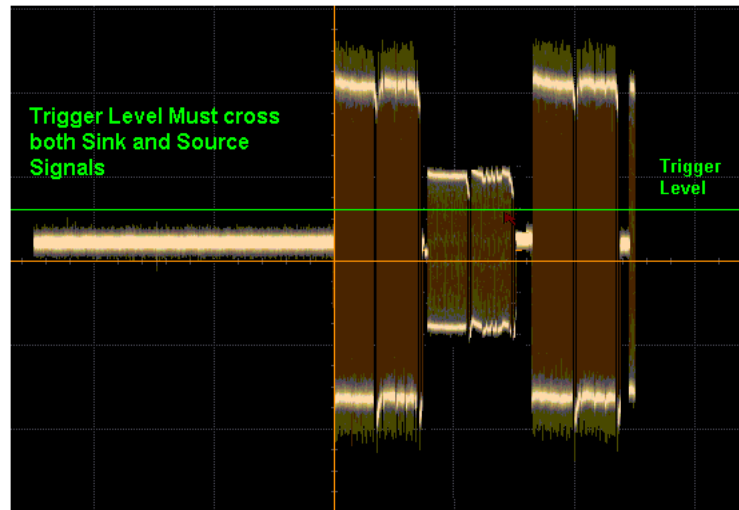
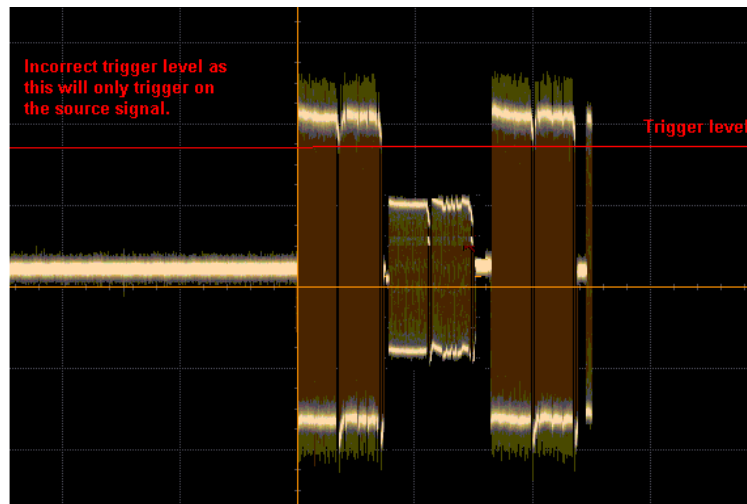

Figure 265 Correct Trigger Level
Figure 266 Incorrect Trigger Level
- **Trigger Level** – The AUX Channel signal level on which to trigger. Note that for a bi-directional signal (where a reference sink is attached), you must set the trigger level such that it crosses both the source command and the sink reply signal. Figure 265 and Figure 266 shows correct and incorrect trigger levels.